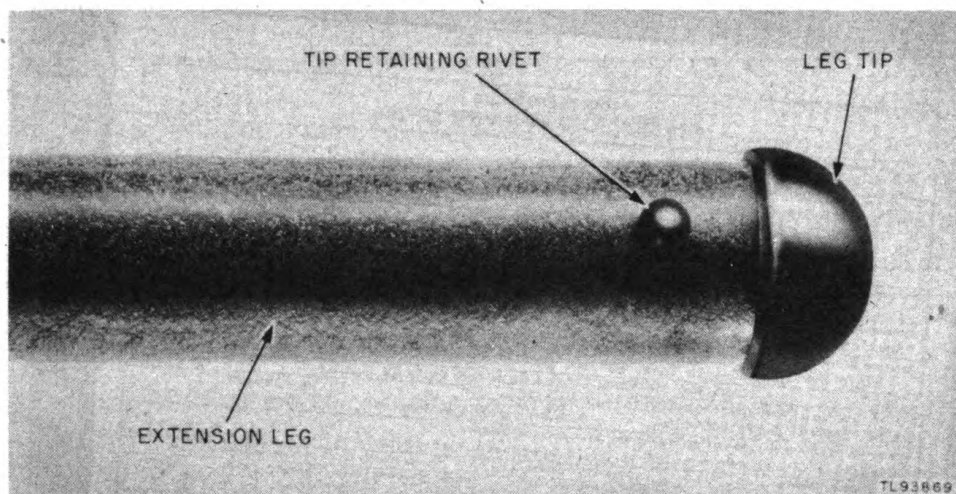

Figure 15. Detailed view of leg tip.
d. REPLACING LEG TIP (fig. 15). The wooden leg tips are set into the bottom of the telescoping extension legs and are fastened in position by a rivet which passes through the tube and the tip. To replace a leg